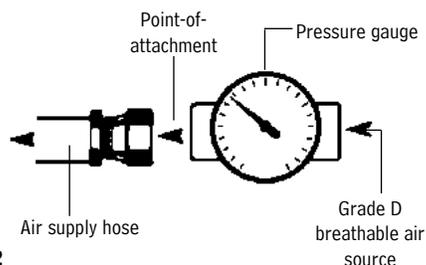

Figure 2
- Adjust the air pressure at the point-of-attachment to within the approved pressure range (**Figure 2**). See the Air Pressure section on the front page.